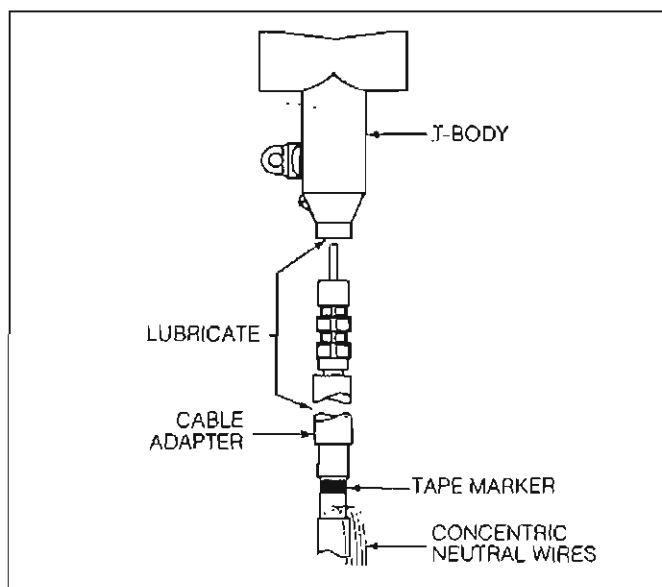

Figure 11.
- Slide T-Body onto cable until compression connector eye is centered in 600 A interfaces. (Refer to Figure 11.)